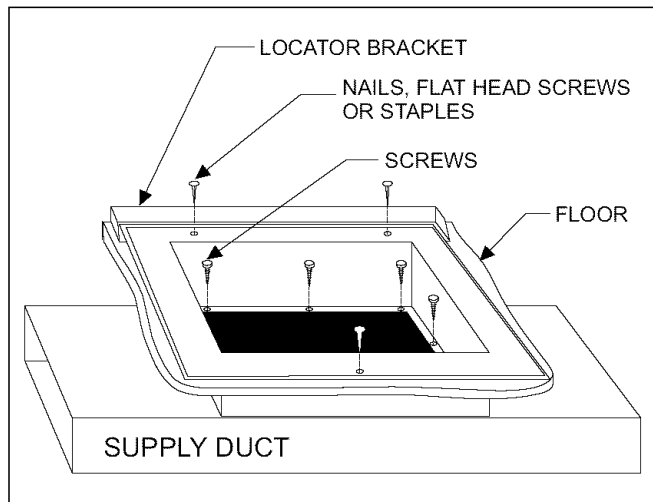

FIGURE 7 : DUCT CONNECTOR SCREW ATTACHMENT (7990 SERIES)
3. Place locating bracket (supplied with the duct connector) to the back edge of the floor opening. See Figure 7.